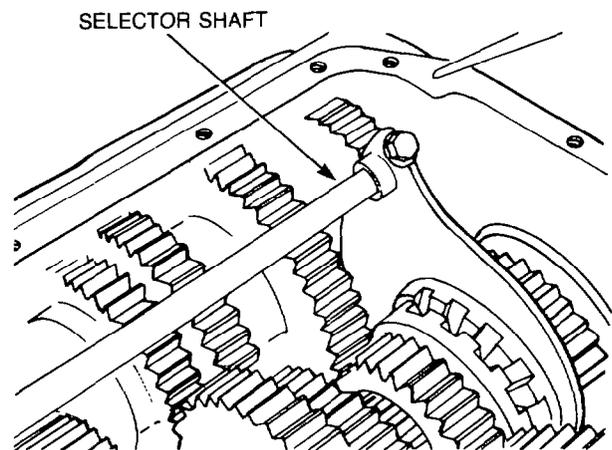

Figure 183 — Installing Selector Shaft, Fork and Stop Pin
- x. Position the selector fork on the front splitter gear sliding clutch then install the selector shaft (long). Secure the fork to the shaft with the locating screw and secure the locating screw with lock wire, then install the selector shaft stop pin into the housing (see Fig. 183).